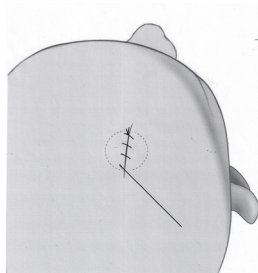

Figure 6
- Using the appropriate technique, close and dress the surgical site (Figure 6).